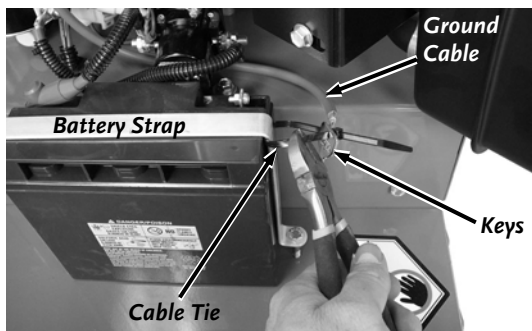

Figure 2
7. Cut the Cable Tie that is securing the Keys and Ground Cable to the Battery Strap (**Figure 2**).